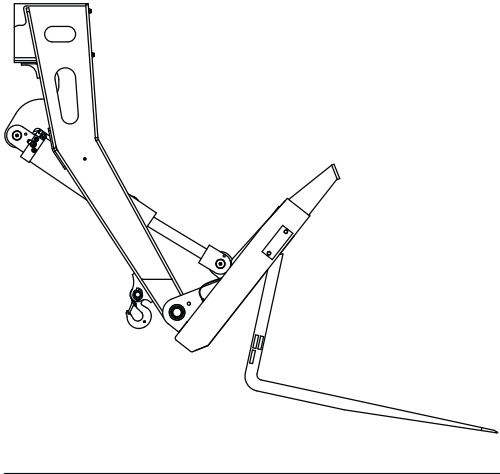

Figure 38 Fork Pivoting on the Bar
2. Tilt the attachment forward until the fork pivots on the bar, and no longer resting on the carriage's bottom rail (see *Figure 38*). This prevents binding on the bar, thus aiding its repositioning.